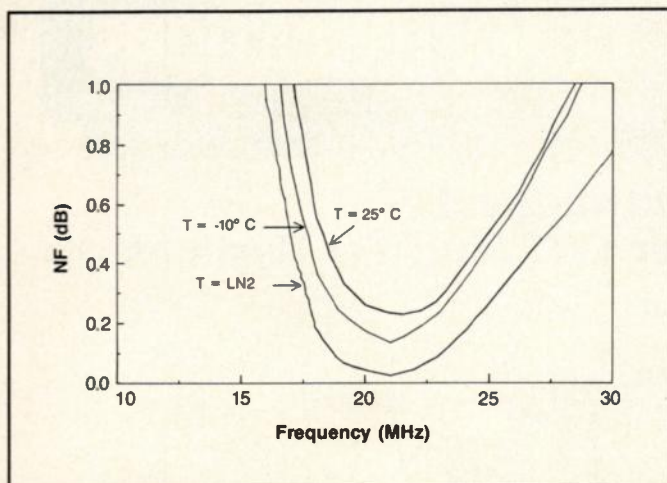

Figure 4. GAP-21 noise figure versus frequency.
Preamplifiers have been designed (18) using GaAs MESFETs for 0.5, 1.5, 2 and 4 Tesla magnetic resonance imaging/spectroscopy systems. They can exhibit very low noise figure (0.3 dB) at room temperature if carefully constructed. The key to such low noise performance is a high-Q input matching network implemented by a helical inductor in a relatively large cavity in combination with a low-noise transistor. The performance of a circuit for a 0.5 Tesla system operating at 21 MHz is presented in Figure 4. Curves are shown for room, freezer (-10 degrees C) and liquid nitrogen (77 K) temperatures. In the latter case the circuit was mounted on a heat sink which was then partially immersed in the cooling fluid. An almost "noise-free" amplifier was obtained. The measurements were made with the Hewlett-Packard HP 8970A noise figure meter in combination with the 346A noise source. (Never use the noise source 346B with GaAs MESFETs!) Another advantage of GaAs MESFETs is their larger dynamic range. The test results demonstrate that these microwave devices work well even at cryogenic temperatures and in the low RF range (10-100 MHz), where they are not normally used (6,7,20). MOSFETs are also very suitable devices for cryogenic applications. This is shown in the following section.
The author is grateful to Dr. R.W. Redington and GE Medical Systems (Milwaukee) for their support of this work. Hideaki Uno (YMS, Tokyo) made the measurements of Figure 4 at GE-CRD. C. Rossi, R. Argersinger and R. Giaquinto built and tested the circuits and helped produce the graphs. Thanks are also due to Dr. W.A. Edelstein for his constant encouragement.